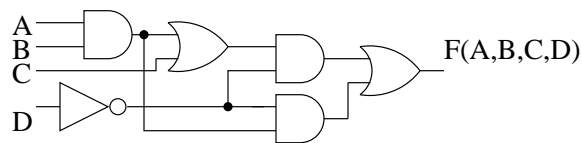

Figure 2.1: The circuit for problems 2 and 3.
2. (2 pts. each) For the circuit in Figure 2.1:
3. **(2 pts.)** For the circuit in Figure 2.1 show what happens when the input $(A,B,C,D)=0010$ is switched to $(A,B,C,D)=1101$. You may assume that the first input (0010) has been held steady for a long time.